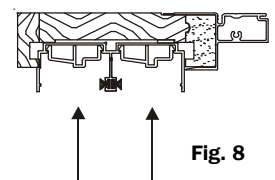

Fig. 8
9. The supplied anti-lift clips need to be installed before the installation is complete, Fig. 8. Place these a couple inches away from each side jamb to prevent the window from being pried open from the exterior.